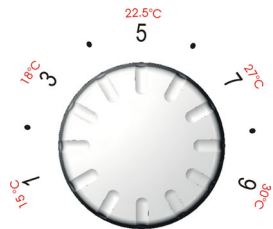

Figure 3 : Scale of the temp knob 2 of Medusa
2. Turn the knob 2 to choose the desired temperature. In the knob 2 you see the numbers of the scale. The range of the temperature is 15°C to 30°C; number 1 corresponds about 15°C and number 9 corresponds about 30°C. As the figure 3 illustrates, the scale of the knob 2 is linear. Use this scale to set the desirable temperature.